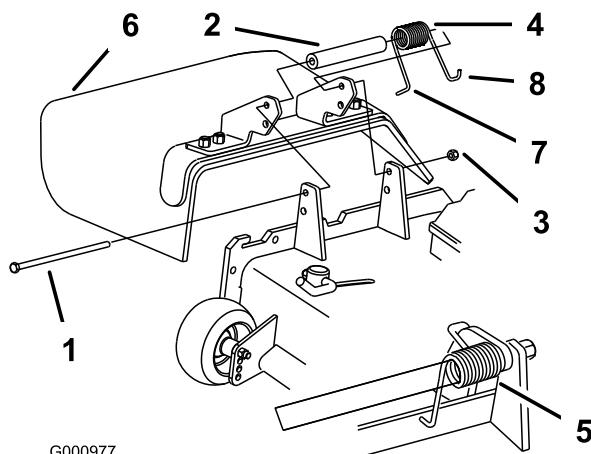

Figure 2
- Place the spacer and spring between the grass deflector brackets (Figure 2). Place the left hand J hook end of spring behind deck edge.
Note: Make sure the left hand J hook end of the spring is installed behind the deck edge before installing the bolt as shown in Figure 2.
- Install the bolt and nut. Place the right hand J hook end of the spring around the grass deflector (Figure 2).